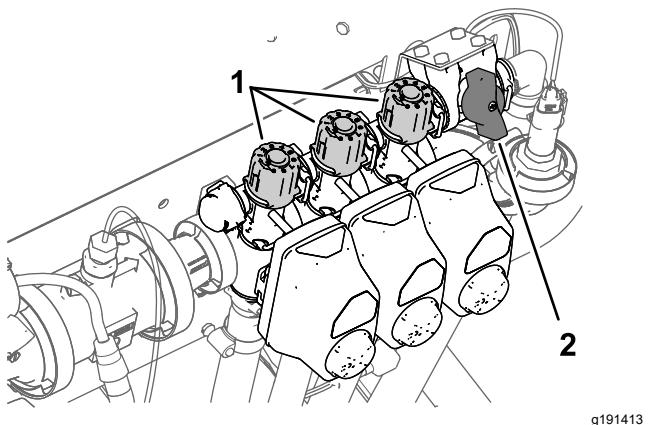

Figure 27
2. Turn off the left-section switch and adjust the section-bypass knob (Figure 27) until the rate displayed is at the previous level according to the table.
4. Adjust the right section-bypass knob (Figure 27) until the rate displayed is at the previous level according to the table.
6. Adjust the center section-bypass knob (Figure 27) until the rate displayed is at the previous level according to the table.